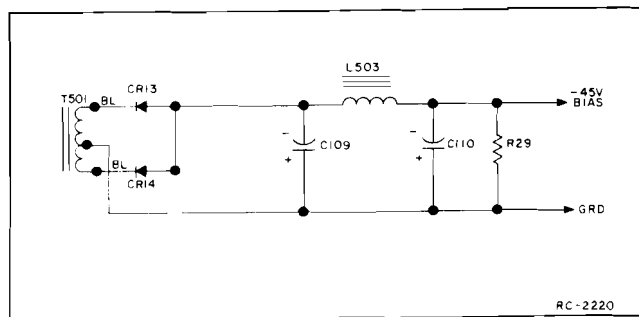

Figure 3 - -45 Volt Bias Supply
-45 VOLT BIAS SUPPLY (Figure 3)